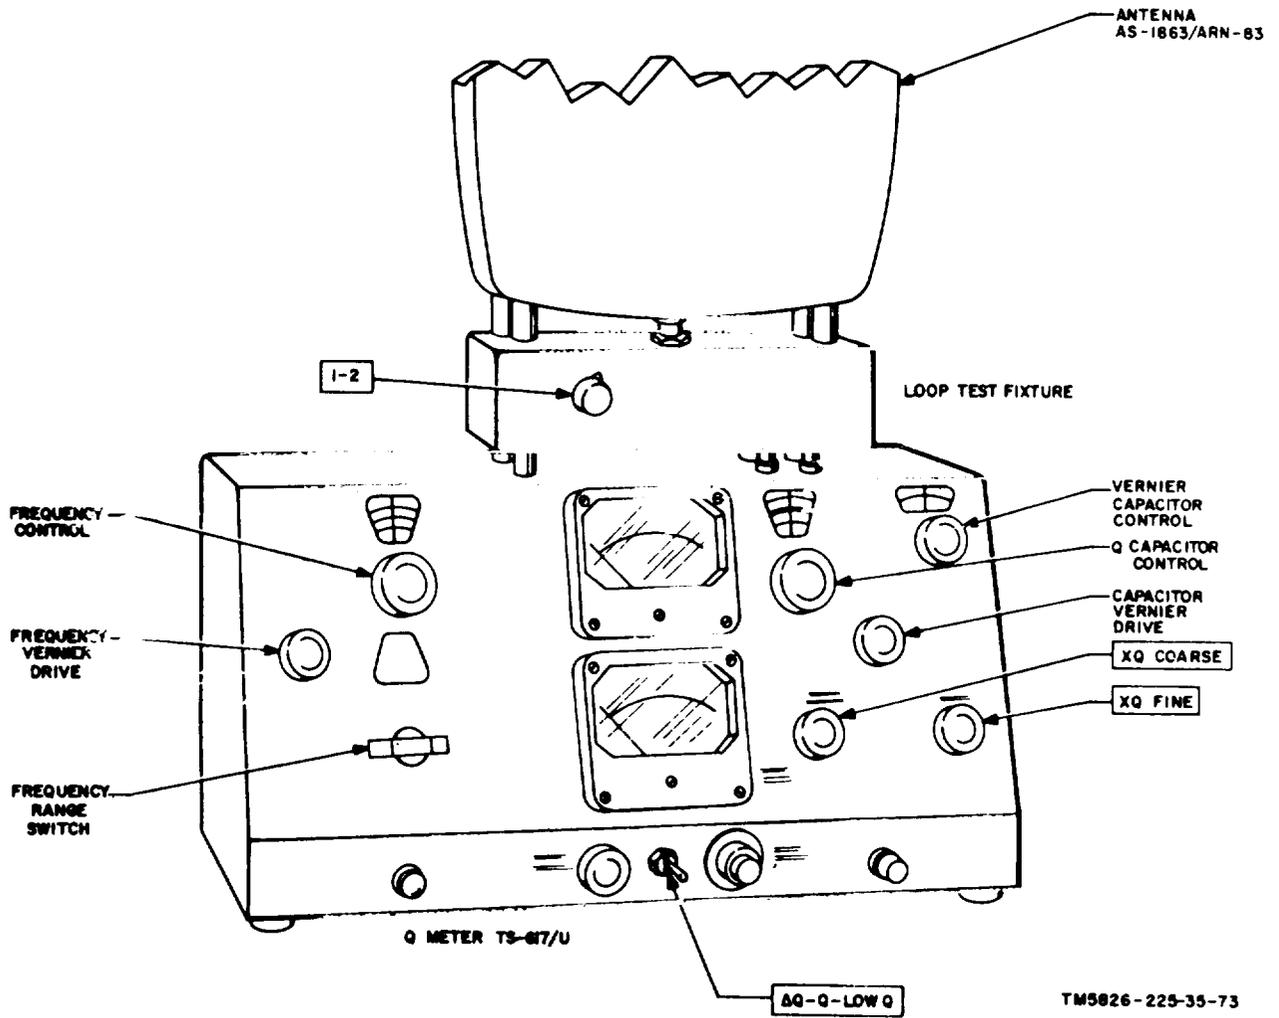

Figure 4-10. Loop antenna test.
- (1) Loop test fixture of Test Set, Direction Finder Set AN/ARM-93.
- (2) Q Meter TS-617/U.
*b. Test Connections and Conditions.* Connect the test equipment as shown in figure 4-10.